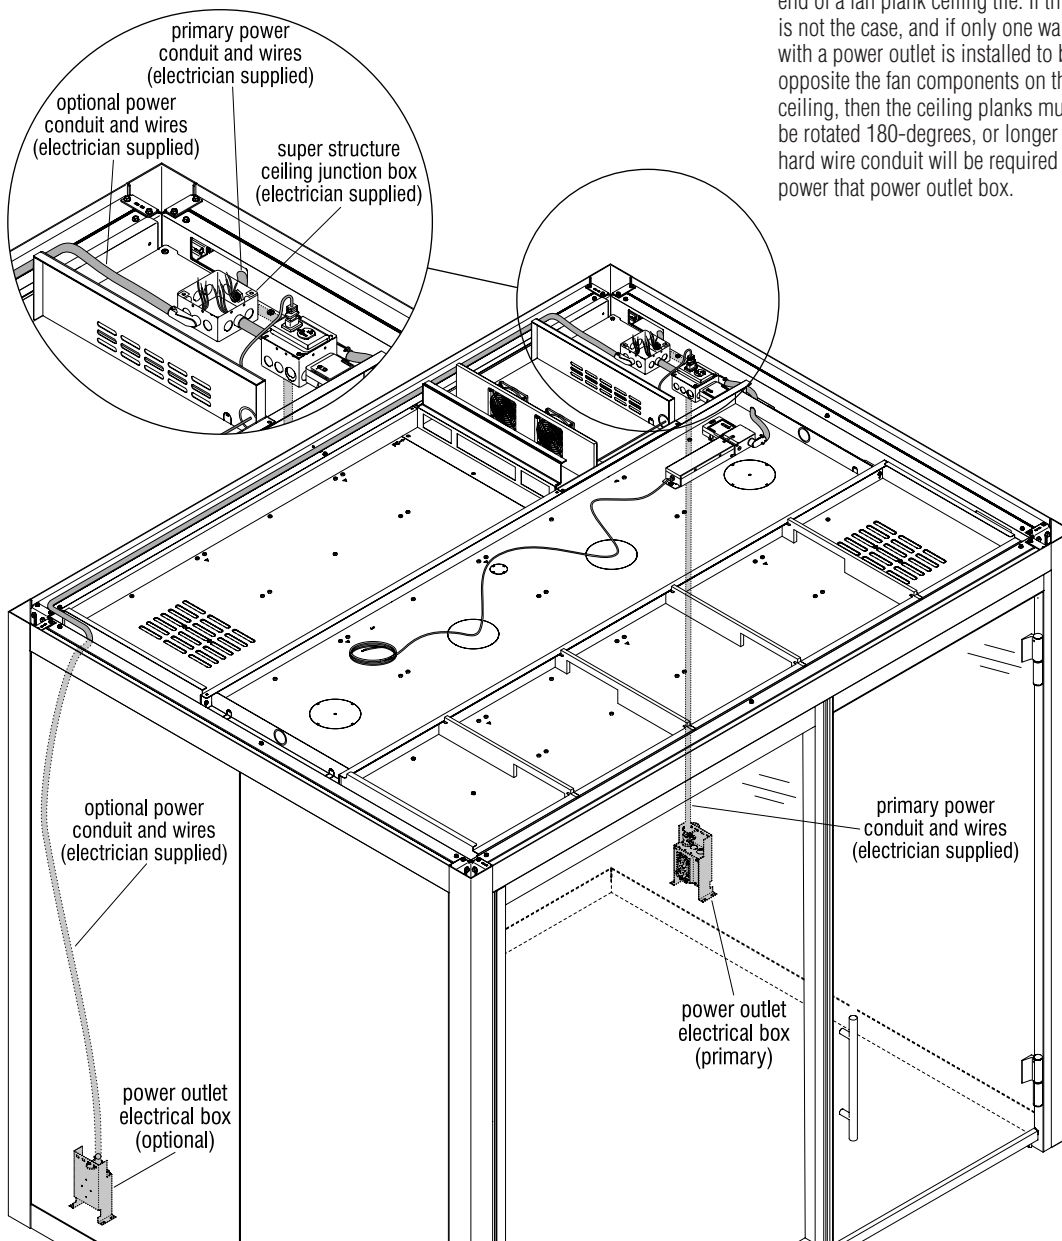

Figure 3
7. Assure that the non-insulated panel shell has been previously removed from Evoke panel(s) with electrical box(s) to receive a power outlet (if not, see page 40). At the panel frame with the primary power outlet location, electrician-supplied conduit with wires is to be installed to and run from the panel's empty power outlet box, up through the horizontal panel frame cut-out, through the beam side cut-out on top, and installed to the electrician-supplied junction box on the ceiling. Install a duplex power outlet to the wires and into the panel's power outlet box per code. Do not make ceiling junction box wire connections until so instructed (Figure 3).
8. If your room configuration has a second, "optional" empty power outlet box installed into the opposite panel wall, electrician-supplied conduit with wires is to be installed to and run from the panel's empty optional power outlet box, up through the horizontal panel frame cut-out, through the beam side cut-out on top, along the top of the perimeter beam as illustrated and is installed to the electrician-supplied junction box on the ceiling. Install a duplex power outlet to the wires and into the panel's power outlet box per code (Figure 3).